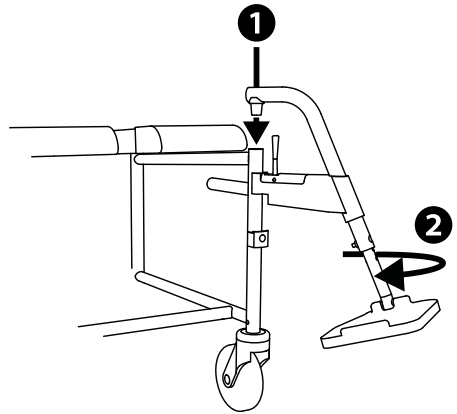

Fig.8
1. Hook the leg rests into the sides of the frame tube from above (1, Fig. 8).
2. Fold the leg rest forwards until it audibly engages (2, Fig. 8).